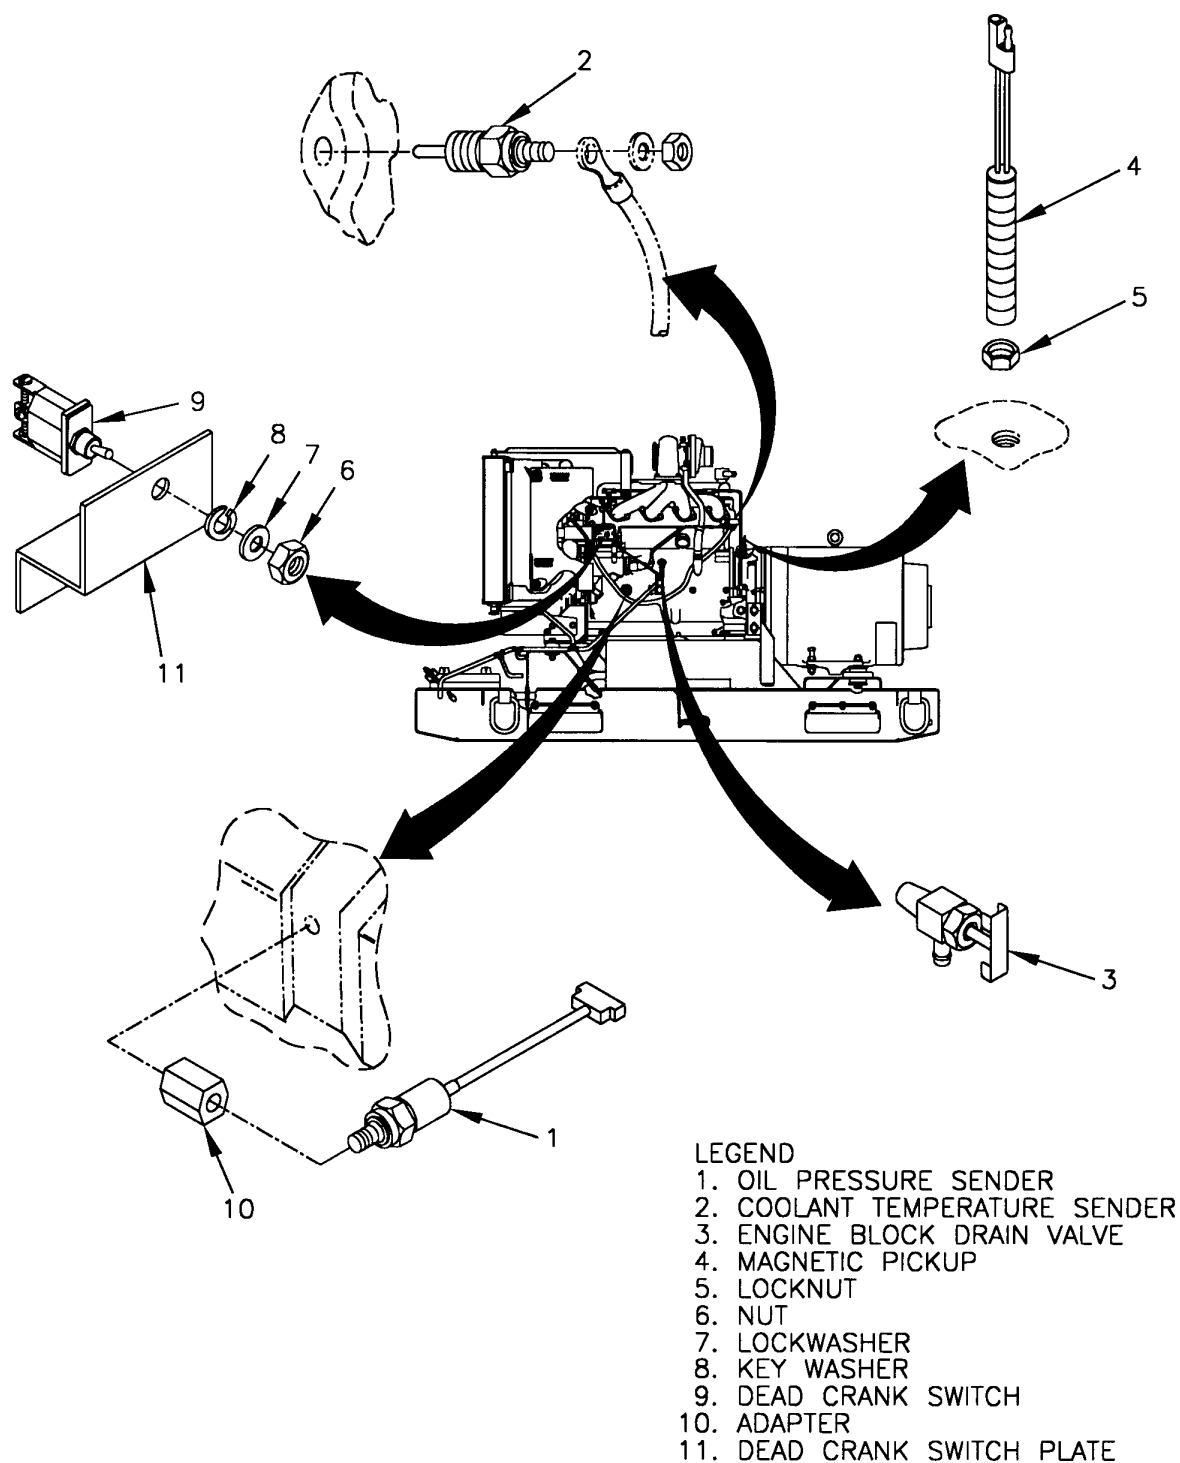

FIGURE 4-30. ENGINE SWITCHES AND SENDERS
- (4) Disconnect electrical plug connector from oil pressure sender (1, Figure 4-30).
- (5) Remove oil pressure sender (1) from adapter (10).
- (1) Apply sealing compound (Item 22, Appendix E) to threads of oil pressure sender (1, Figure 4-30), and install switch on adapter (10).
- (2) Connect electrical plug connector to oil pressure sender (1). Remove tags.
- (3) Close engine compartment access doors.
- (4) Connect negative battery cable to battery, and close BATTERY ACCESS door.
- (4) Remove dead crank switch plate, refer to paragraph 4.14.4.
- (5) Disconnect electrical plug connector from coolant temperature sender (2, Figure 4-30) by unscrewing retaining ring.
- (6) Set multimeter for ohms, and connect positive lead to temperature sender terminal and negative lead to pin 4. Multimeter should indicate as follows:
- (4) Open left side engine compartment access doors (Figure 1-3), open engine block drain valve (3, Figure 4-30), and drain coolant into suitable container.
- (5) Close engine block drain valve (3).
- (6) Disconnect electrical plug connector from coolant temperature sender (2).
- (7) Remove coolant temperature sender (2) from engine head.
- (1) Apply sealing compound (Item 22, Appendix E) to threads of coolant temperature sender (2, Figure 4-30), and install switch on engine block.
- (2) Connect electrical plug connector to coolant temperature sender (2).
- (4) Disconnect electrical plug connector from magnetic pickup (4, Figure 4-30).
- (5) Loosen locknut (5), and remove magnetic pickup (4) from flywheel housing.
- (1) Screw magnetic pickup (4, Figure 4-30) into flywheel housing until pickup bottoms out on flywheel. Back magnetic pickup out 1 1/2 turns. Tighten locknut (5).
- (2) Connect electrical plug connector to magnetic pickup (4). Remove tags.
- (3) Connect negative battery cable to battery, and close BATTERY ACCESS door.
- (4) Adjust magnetic pickup (4), 4.13.3.d.
- (5) Close engine compartment access doors.